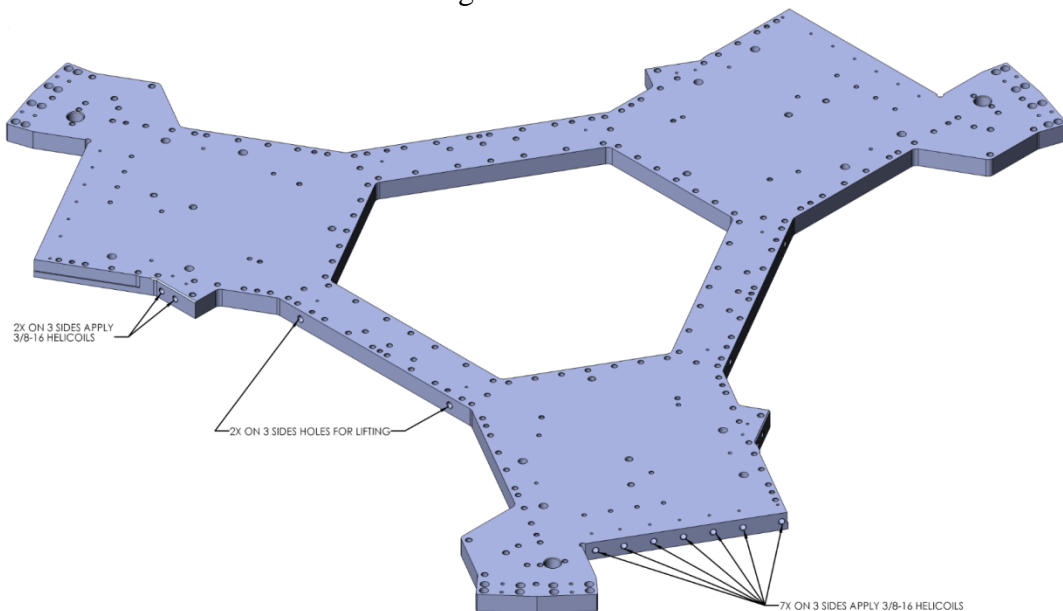

Fig 15
11. Install 3/8-16 helicoils as shown in figure 15.